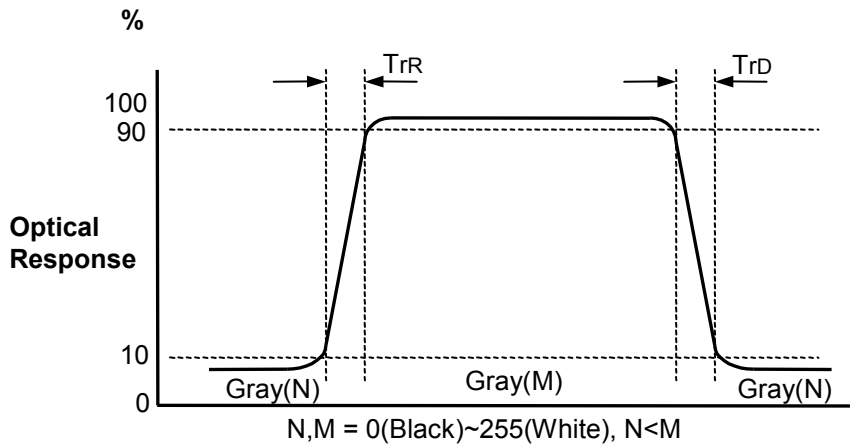

FIG. 3-2 Gray to Gray Response Time
4-2. Response time is the time required for the display to transition from G(N) to G(M) (Rise Time,  $Tr_R$ ) and from G(M) to G(N) (Decay Time,  $Tr_D$ ). For additional information see the FIG. 3-2. (N<M)